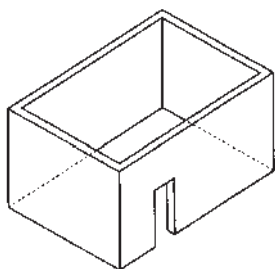

Fig. 3 - Enclosure with walls on all sides but no overhead cover.
- An enclosure with walls on all sides, but at least one premanent opening at ground level and no overhead cover. See Fig.3.